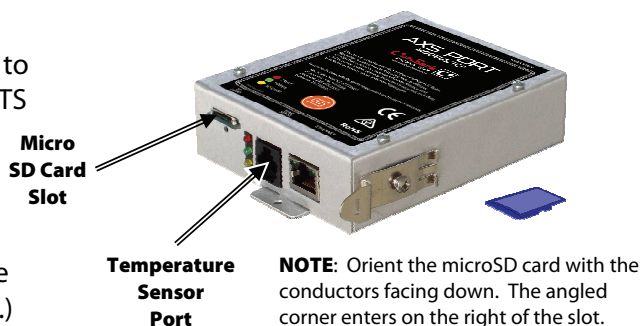

Figure 5 Accessories
- **SD Card LED:** Illuminates when a microSD card is correctly placed in the slot. (See Figure 5.)